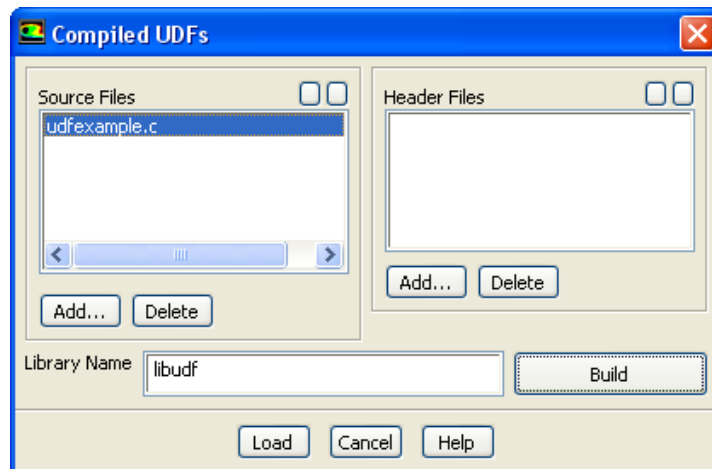

Figure 8.1.6: The Compiled UDFs Dialog Box
2. Open the Compiled UDFs dialog box (Figure 8.1.6).